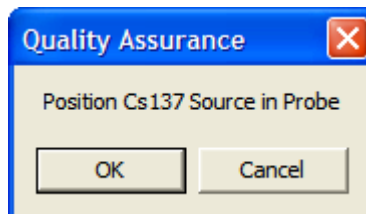

Figure 5-4
- Click the **Start Procedure** button or press *Alt+S* to start the calibration procedure. The screen appears as shown in Figure 5-4.